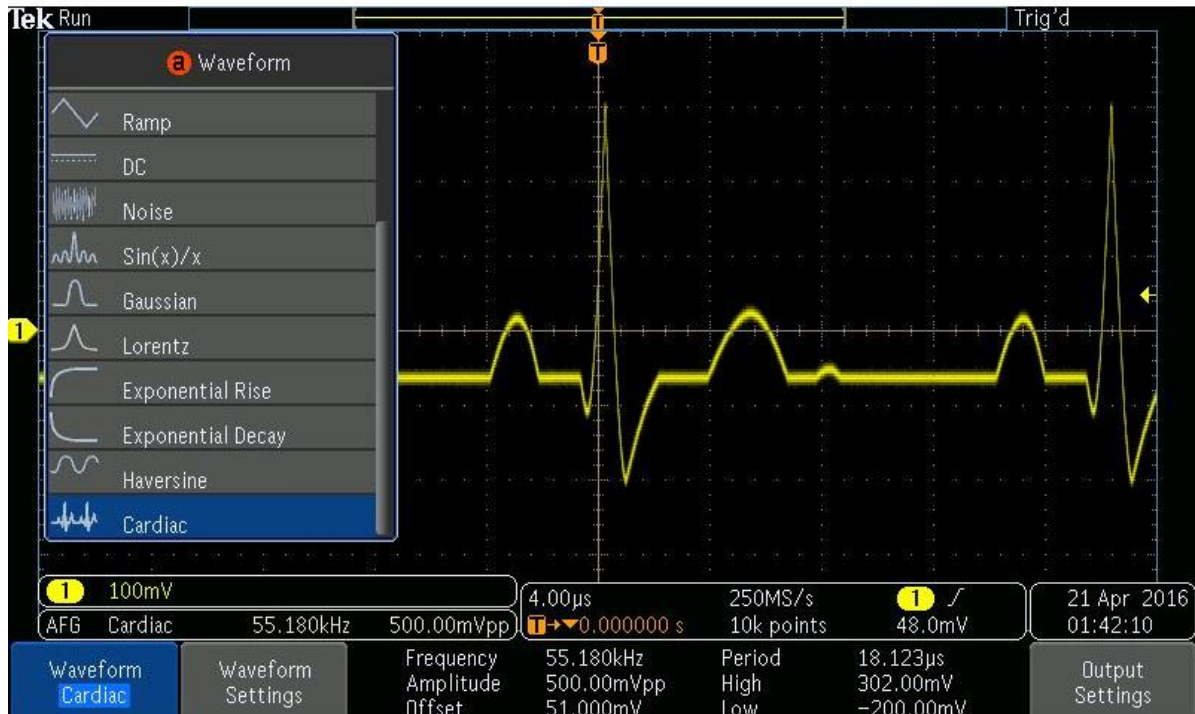

Figure 6
3. Press *Waveform* and use Multipurpose wheel *A* to select a waveform. (See figure 6)